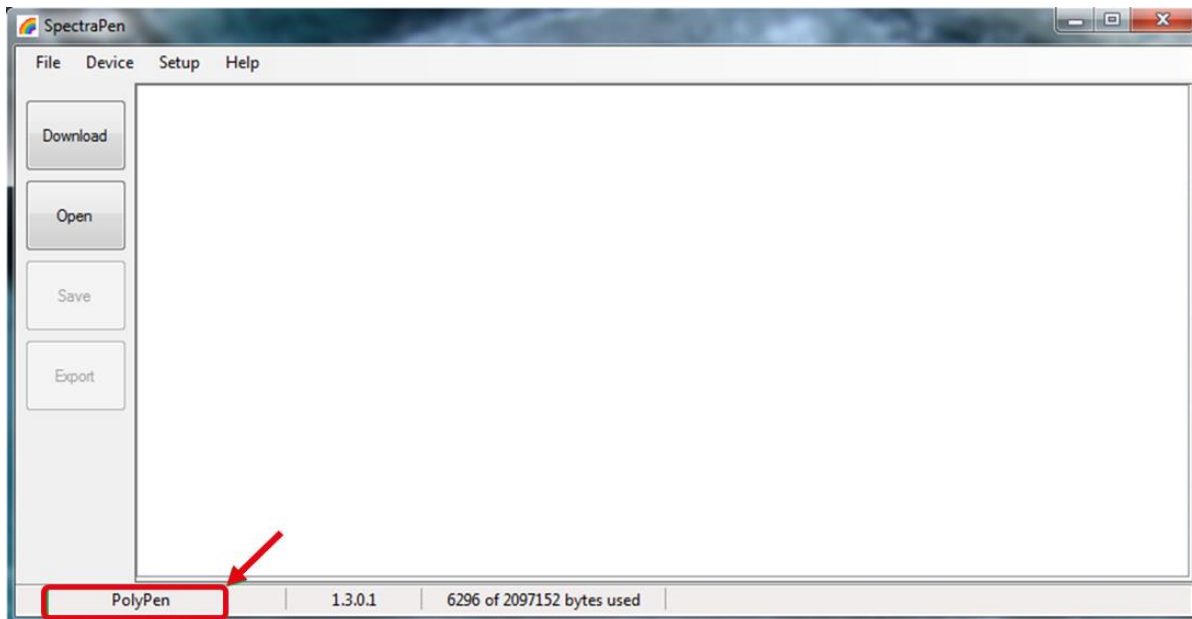
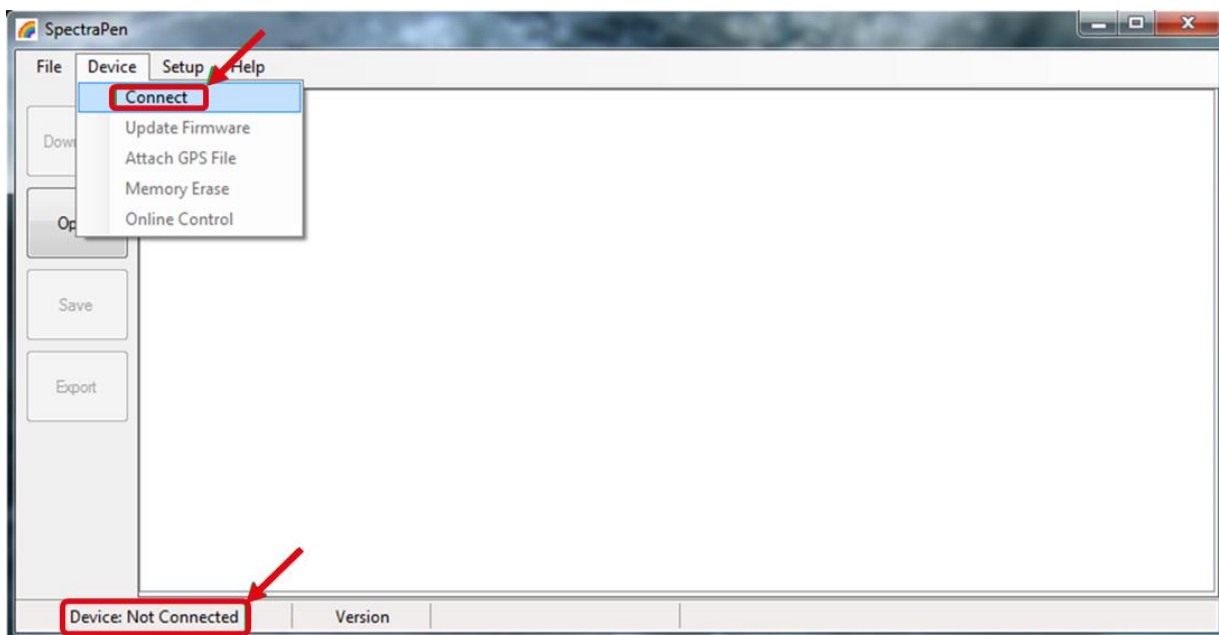

Fig. 21 PolyPen connected.
Fig. 22 Connection failed.
6. When the device is properly connected the left bottom corner of the SW window will display **"PolyPen"** (Fig. 21). Otherwise, notification **"Device: Not Connected"** is displayed (Fig. 22).